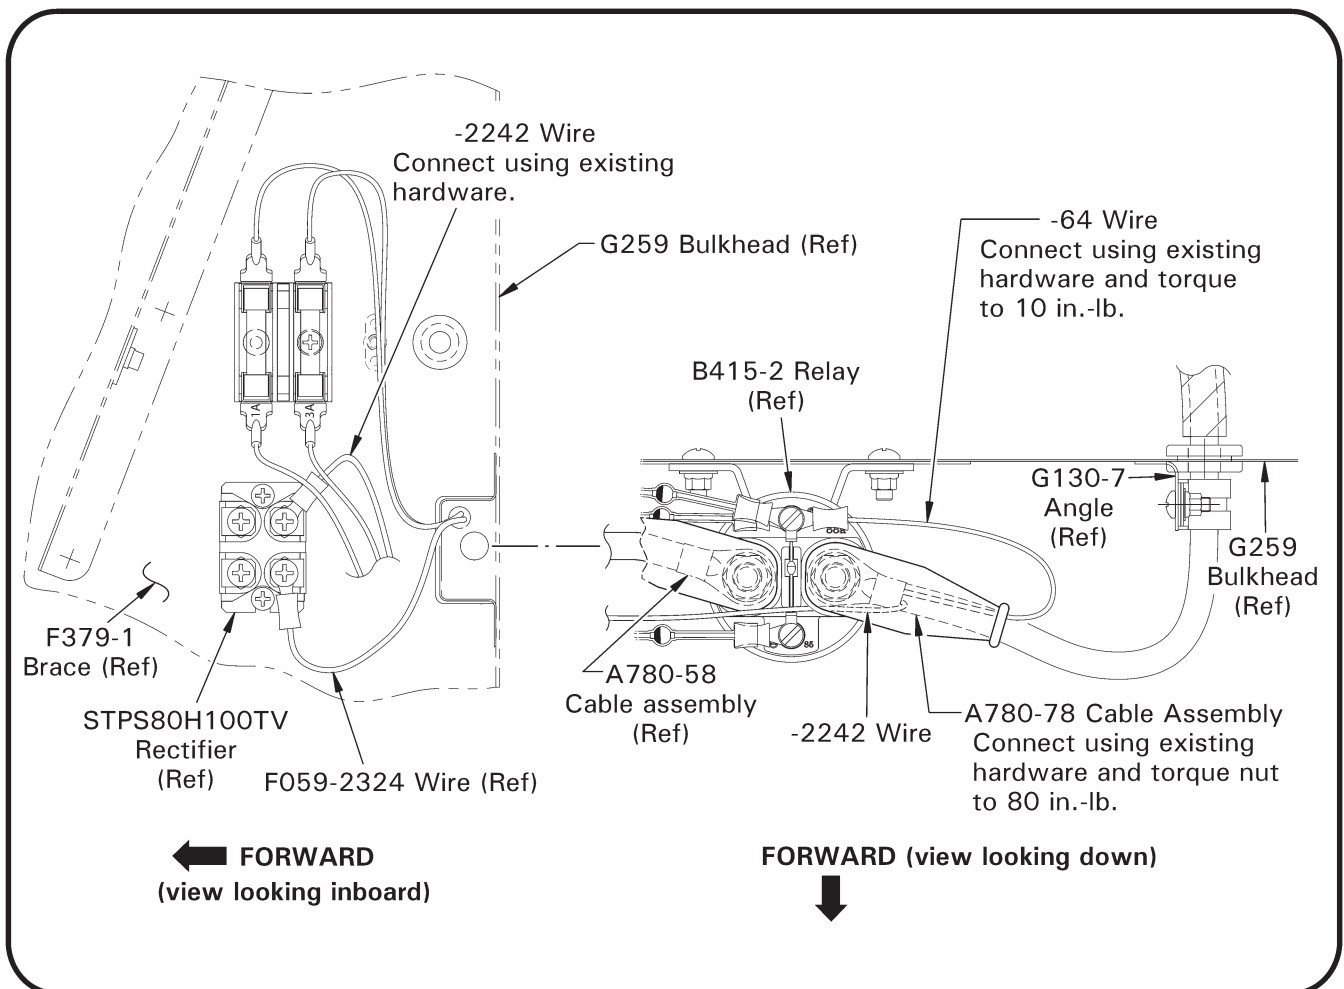

FIGURE 8 Installation of A780-78 cable
13. Refer to Figure 7 or 8, as applicable. Position MS25171-2S nipple onto relay end of replacement cable. Connect A780 cable to battery relay outboard stud and special torque nut to 80 in.-lb; verify security. Torque stripe per MM Figure 5-1 and position nipple over stud. Connect cable's -64 wire to relay terminal "86 +" and special torque screw to 10 in.-lb; verify security. **For A780-78 cable:** see Figure 8. Connect cable's -2242 wire to rectifier; verify security.